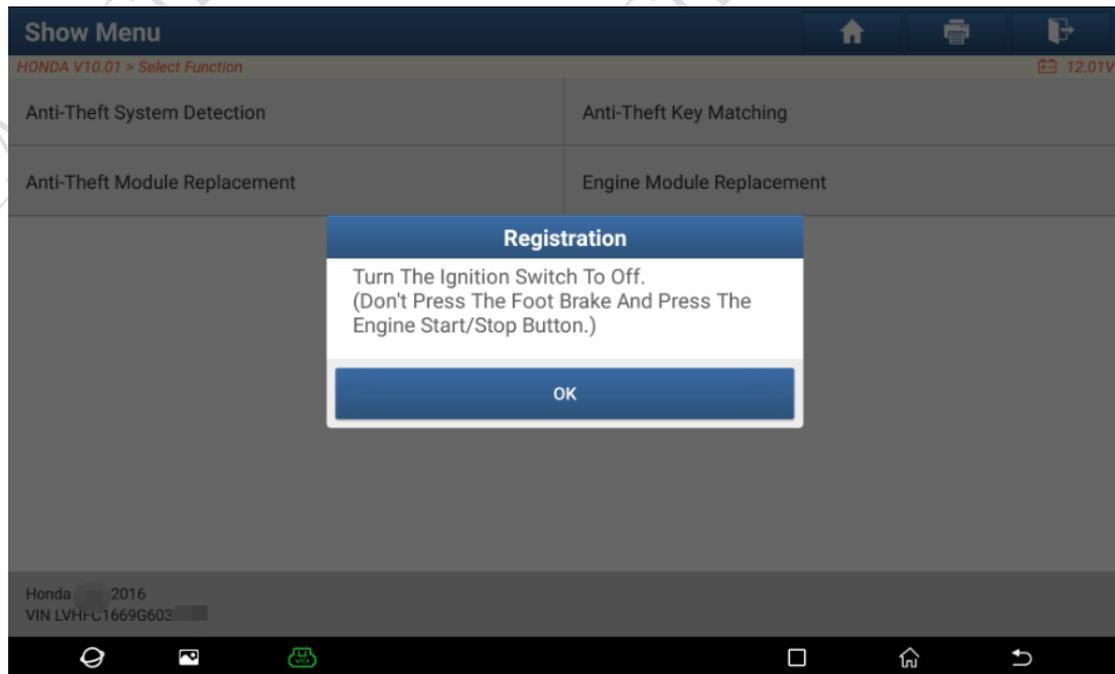

Figure 5
5. Turn the ignition switch to OFF, as shown in Figure 5.